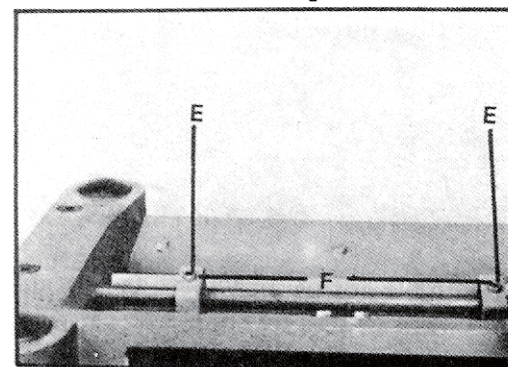

Fig. 34
5. If an adjustment to the chipbreaker is necessary, loosen nuts (F) Fig. 34, and turn screws (E) until bottom of chipbreaker just touches gage block. Then tighten nuts (F).